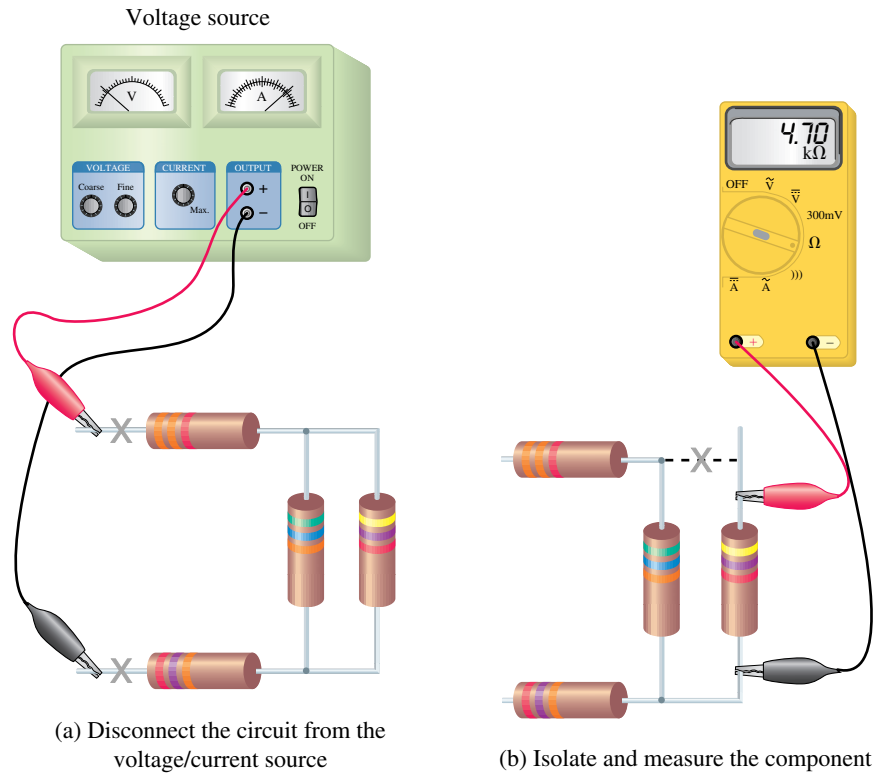

FIGURE 3-19 Using an ohmmeter to measure resistance in a circuit.
1. As shown in Figure 3-19(a), remove all power supplies from the circuit or component to be tested. If this step is not followed, the ohmmeter reading will, at best, be meaningless, and the ohmmeter may be severely damaged.
2. If you wish to measure the resistance of a particular component, it is necessary to isolate the component from the rest of the circuit. This is done by disconnecting at least one terminal of the component from the balance of the circuit as shown in Figure 3-19(b). If this step is not followed, in all likelihood the resistance reading indicated by the ohmmeter will not be the resistance of the desired resistor, but rather the resistance of the combination.
3. As shown in Figure 3-19(b), connect the two probes of the ohmmeter across the component to be measured. The black and red leads of the ohmmeter may be interchanged when measuring resistors. When measuring resistance of other components, however, the measured resistance will be dependent upon the direction of the sensing current. Such devices are covered briefly in a later section of this chapter.